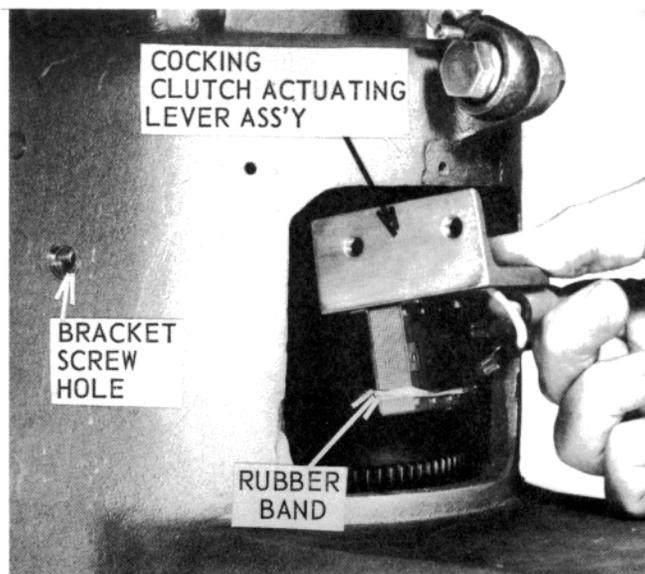
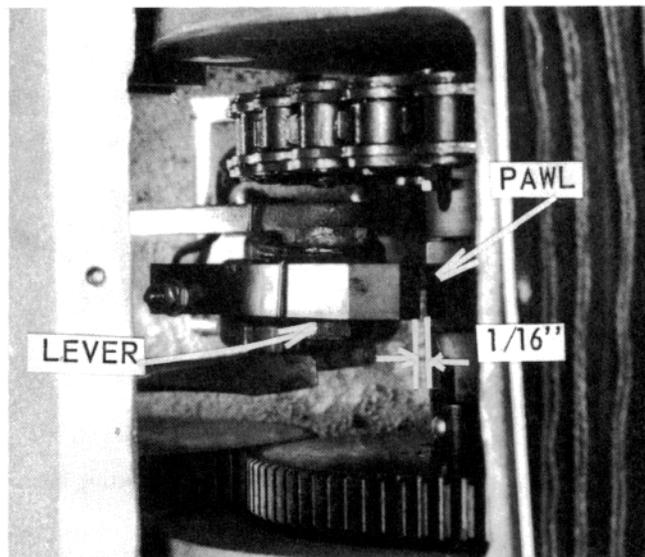

Figure 61 – Reinstalling Cocking Clutch Actuating Lever Assembly
Figure 62 – Clutch Actuating Lever Clearance
- 4.4 When reinstalling the cocking clutch actuating lever assembly (see Figure 61), use a rubber band to keep the armature seated in the coil until the screws have been reinstalled in the bracket. Do not overtighten bracket screws. Then remove the rubber band and allow the lever to engage the sleeve. The clutch actuating lever assembly should have a clearance of 1/16" between the clutch actuating lever and the cocking clutch pawl when the solenoid is depressed. (see Figure 62).